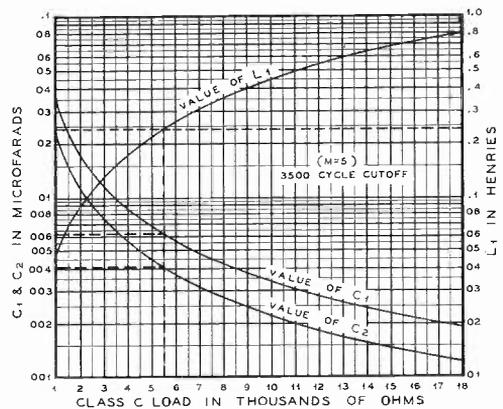
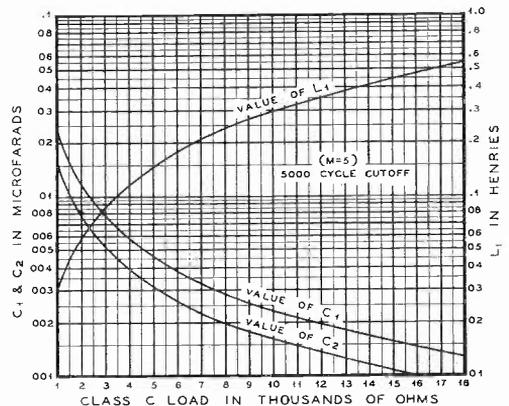

Fig. 2
Fig. 3
• The two curves, Fig. 2 and Fig. 3, eliminate the necessity of calculating the values of L_1 , C_1 and C_2 . Either curve may be used although the 3500 cycle cut-off occupies the narrower band width. To use the curves it is only necessary to know the class C load and for cathode modulation the load consists of the cathode impedance or the Class C voltage divided by the Class C current multiplied by the plate modulation factor.
Procedure: The 3500 cycle filter occupies the narrower band width and it is to be preferred. Calculations will thus be based on the 3500 cycle cut-off Fig. 2. Draw a line from "5500 Ohms" on the base to the curves marked L_1 , C_1 and C_2 as shown by the dotted lines. L_1 is
Procedure: Draw a vertical line from "9000 ohms" on the base of the curve to the load line marked "4000 ohms." The ratio of 1.5 is then found by drawing a horizontal line from this junction to the left-hand side of the curve. The correct transformer connections for a ratio of 1.5 are (from Fig. 2): for the primary, connect the modulator plates to terminals C and C; join D and D for the primary center tap; for the secondary, join 4 to 5, connect the cathode to 1 and ground 7. Whenever the exact ratios cannot be found the next lower ratio should be used. This reflects a lower value of plate to plate load across which the modulating power is more easily developed. The grid return is connected to the moveable arm of the 2000 ohm semi-variable 25 watt resistor which is connected between two of the secondary taps. The connections for this condition are shown in Fig. 3.